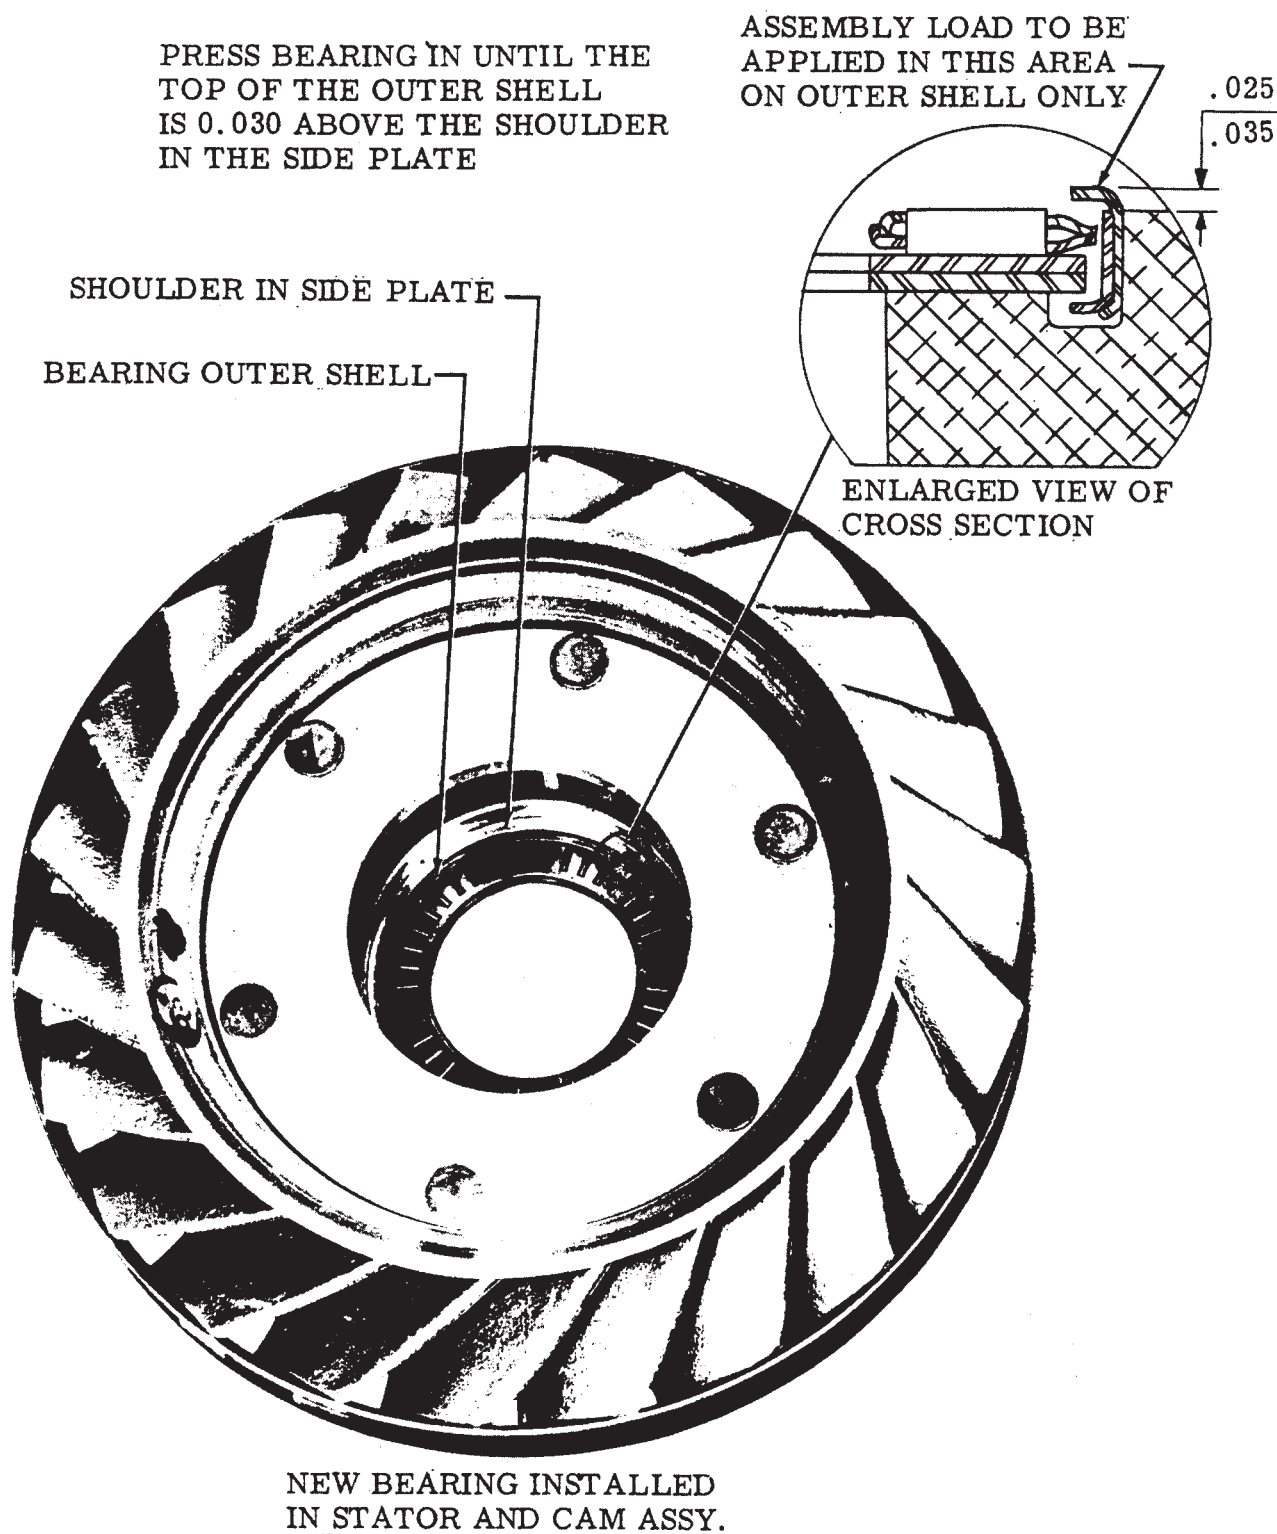

Figure 10-21. Stator Thrust Bearing Installation
1. If bearing (9) was removed, install a new bearing assembly. The bearing must be installed as shown in figure 10-21. A special tool should be used to ensure proper assembly (see figure 7-1).